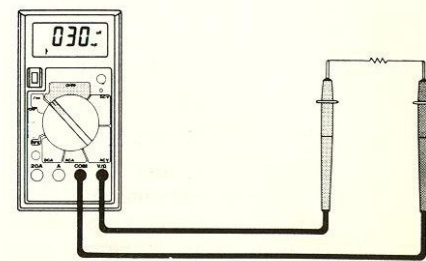

Fig. 5-8 Audible continuity test
2. Set the function switch to the  $\rightarrow \text{diode symbol}$  range (same range as diode) and connect test leads across the resistance under measurement. See Figure 5-8.
3. Buzzer sounds and LED lamp lights up except 3620 (B) if the resistance between two probes is less than approximately 30 ohms.